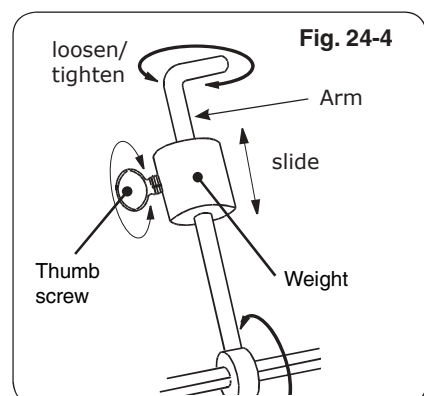

Fig. 24-4
7. Slide the counterbalance weight up or down the arm until the rod rotates most evenly then tighten thumb screw (Fig. 24-4 and Fig. 24-5).